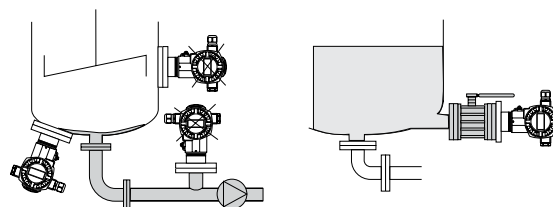

Figure 7: Measuring arrangement for level
- Mount Cerabar S below the lowest measuring point (see Fig. 7)